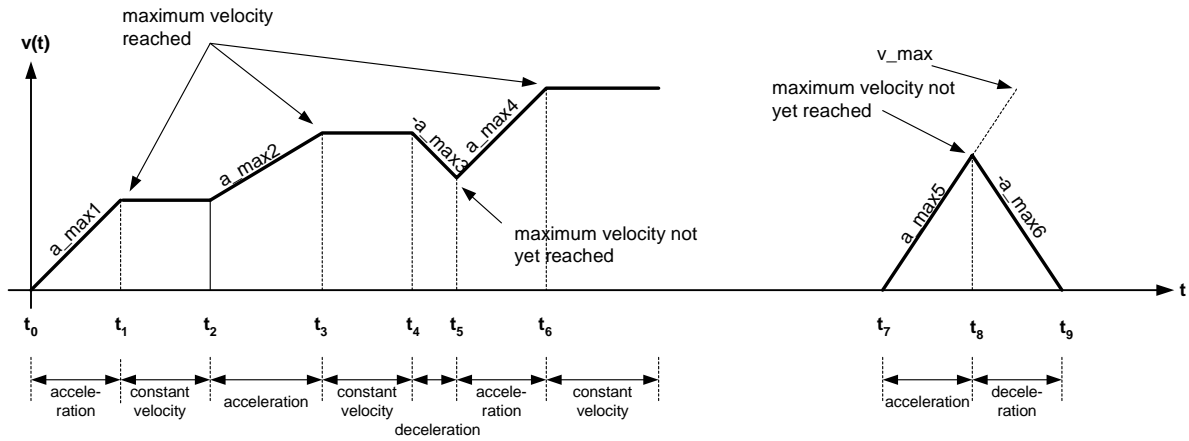

Figure 2: Velocity profile in velocity mode
- In **Velocity-Mode** the acceleration and the maximum speed is specified in the TMCM-302. Then the motor accelerates immediately with the specified value to the maximum speed and continues to run at constant speed till new values are sent to the TMCM-302. In Figure 2 the motion sequence for the velocity mode is shown as an example. Here the motor accelerates with a_{max} till it reaches the maximum velocity and then continues to run at constant speed with v_{max} till new a_{max} and v_{max} is specified. On the right side and at t_5 the v_{max} is not distinctly reached if a new parameter is prematurely given.